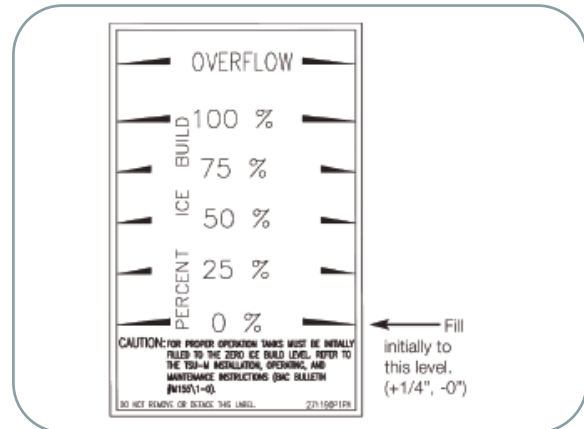

Figure 9 - Water Level in Sight Tube
2. Continue filling the tank until the water level in the clear sight tube reaches the "0% ice build" level (See Figure 9 below).